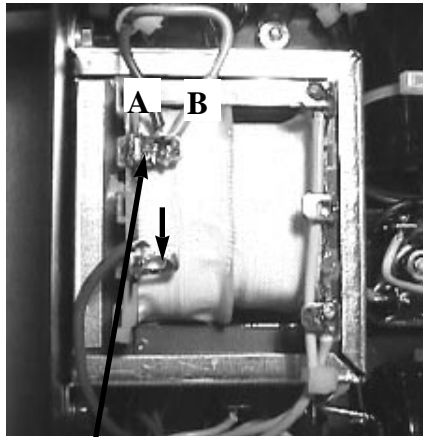

Figure 4a
**Final wiring should look like Figure 4a.**